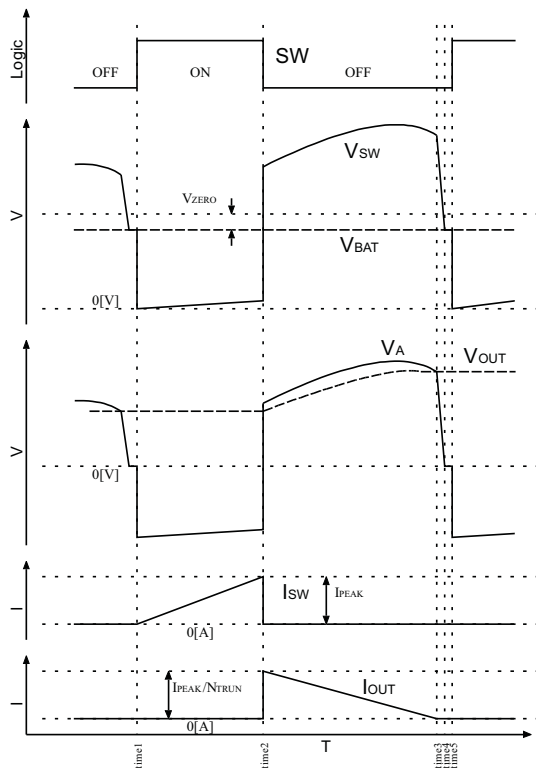
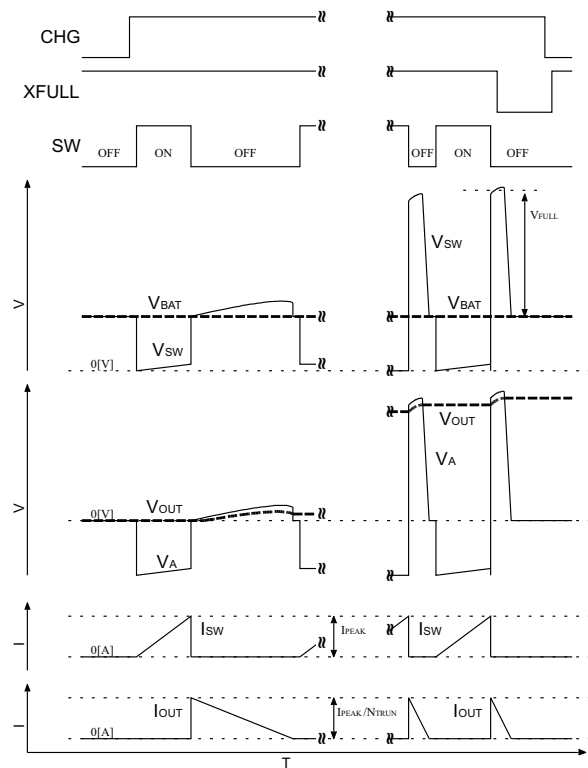

Figure 5. Timing Diagram at One Switching
Figure 6. Timing Diagram at Beginning/Ending
The device starts charging at timeH, and OVDS protection occurs at TimeI (see Figure 5). At TimeI, XFULL stays H. At TimeJ, the controller detects OVDS protection through the expiration of a timer ends and then sets CHG to low to terminate the operation.
The TPS65562 provides three comparators to control charging. Figure 2 shows the block diagram of TPS65562, and Figure 5 shows a timing diagram of one switch cycle. Note that emphasis is placed on Time1 and Time3 of the waveform in Figure 5.
While SW is ON (Time1 to Time2 in Figure 5), U3 monitors current flow through the integrated power switch from SW pin to GND. When I(SW) exceeds I(PEAK), SW turns OFF (Time2 in Figure 5).
When SW turns OFF (Time2 in Figure 5), the magnetic energy in the transformer starts discharging. Meanwhile, U2 monitors the kickback voltage at the SW terminal. As the energy is discharging, the kickback voltage is increasing according to the increase of VO (Time2 to Time3 in Figure 5). When almost all energy is discharged, the system cannot continue rectification via the diode, and the charging current of IO goes to zero (Times3 in Figure 5). After rectification stops, the small amount of energy left in the transformer is released via parasitic paths, and the kickback voltage reaches zero (Time3 to Time4 in Figure 5). During this period, U2 makes SW turn ON when (V(SW) - VBAT) dips from V(ZERO) (Time5 in Figure 5). In the actual circuit, the period between Time4 and Time5 in Figure 5 is small or does not appear dependent on the delay time of the U2 detection to SW ON.
U1 also monitors the kickback voltage. When (V(SW) - VBAT) exceeds V(FULL), the TPS65562 stops charging (see Figure 6).
In Figure 5 and Figure 6, ON time is always the same period in every switch cycle. The ON time is calculated by Equation 1. L and IPEAK are selected to ensure that tON does not exceed the MAX ON time (tMAX).